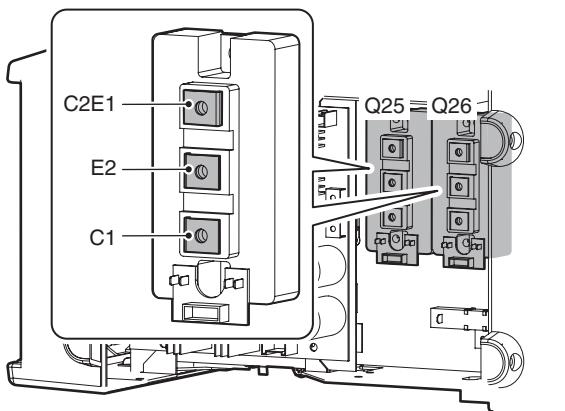

Figure 6-17: Tester checkpoints in the Q25-Q26
- 3) Refer below Table 6-8 and Figure 6-17 for the checkpoints on Q25-Q26.